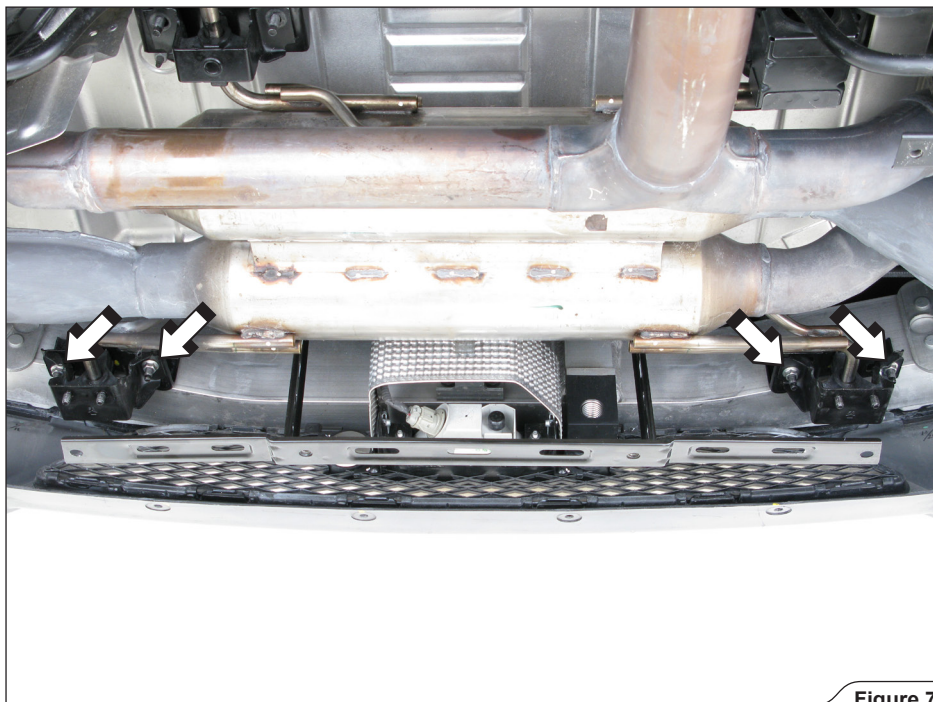

Figure 7
5. Unscrew the marked rubber brackets and remove the rear part of the original exhaust (**Figure 7**).